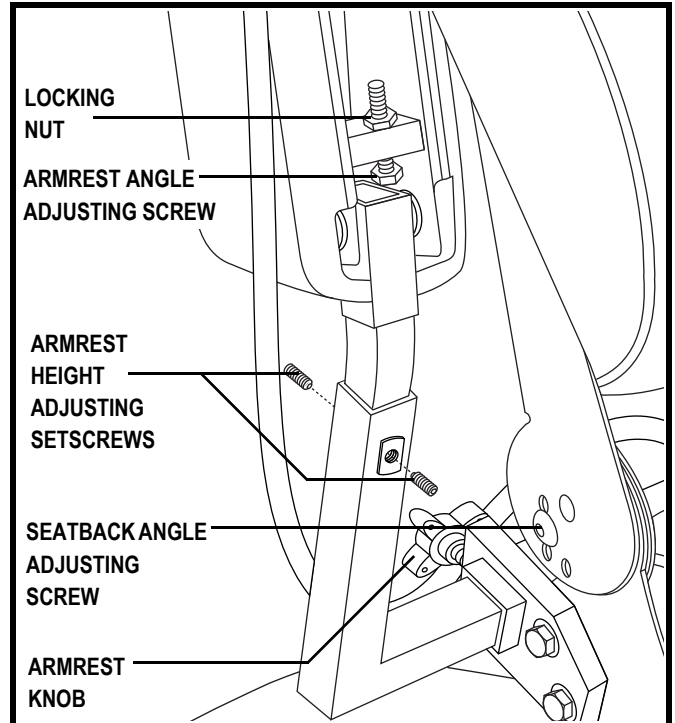

Figure 17. Seatback and Armrest Adjustments
1. Remove the seatback angle adjustment screws on both seat hinges. See figure 17.
1. Locate the two armrest knobs on each side of the armrest receiver bracket. See figure 17.
2. Raise or lower the armrest to the desired height. See figure 17.
2. Loosen the locking nuts. See figure 17.
4. Turn the adjustment screw to raise the front of the armrest or to lower the front of the armrest. See figure 17.